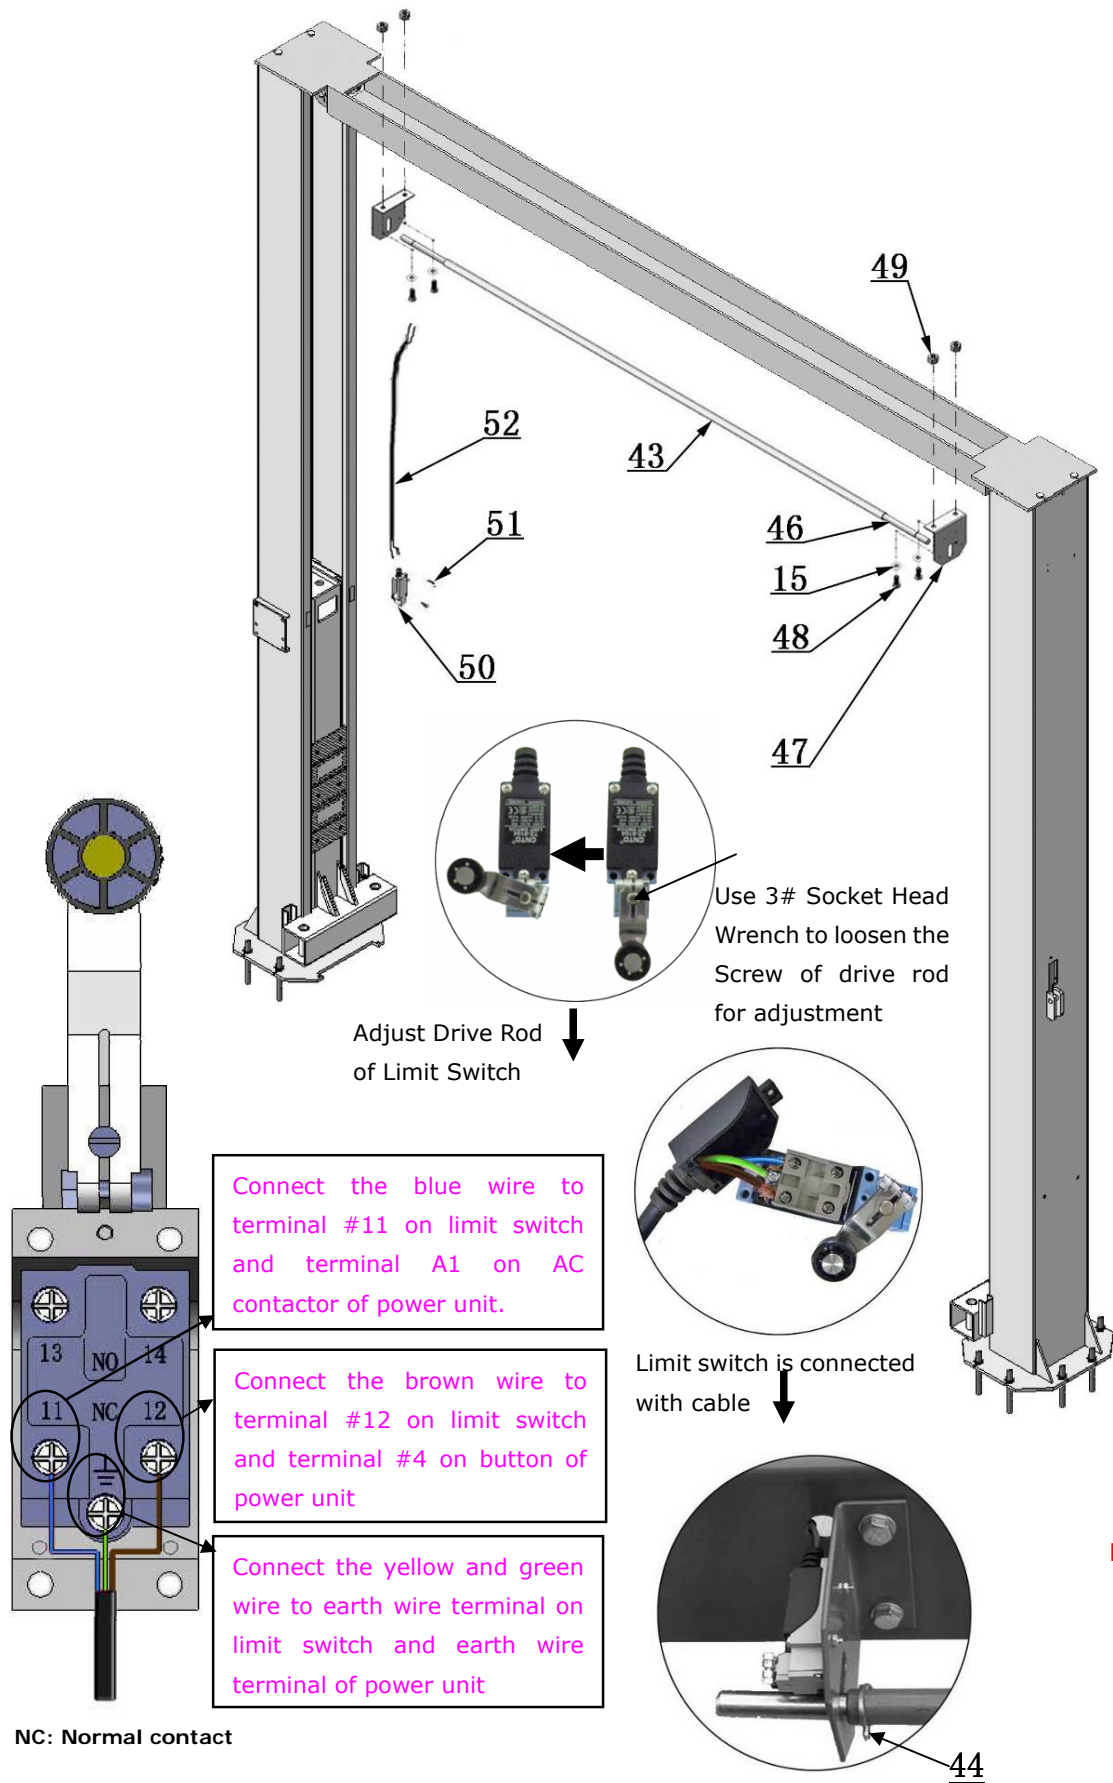

Fig. 22
K. Install the limit switch control bar and limit switch (See Fig. 22).